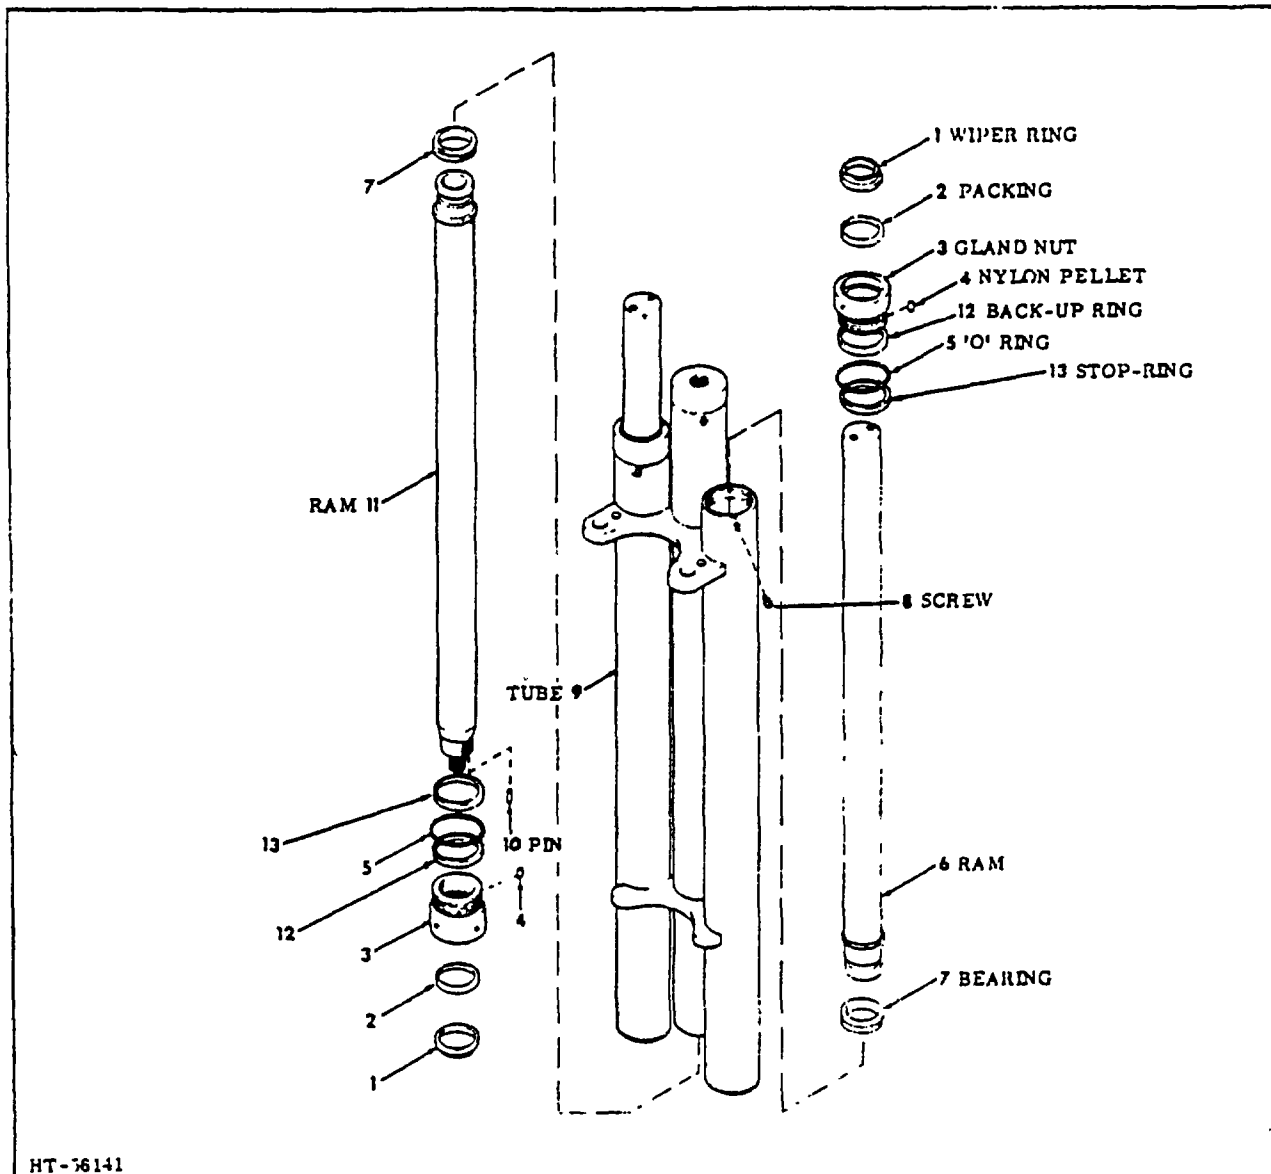

Figure 3. Cylinder Cluster Assembly (Tri-Max, High Free Lift)
1. Refer to Figure 3 and place bearing (7) on ram (6) end as shown.
2. Ensure that all parts and ram are free of any foreign matter and Insert ram in tube (9) as shown. Install and tighten the stop ring (13), if applicable.
3. Preassemble packing (2) and wiper ring (1) within gland nut (3) ; then place "O" ring (5) and back-up ring (12) on gland nut (3). Insert replacement nylon pellets (4) in nut.
4. Slide preassembled gland nut (3) over ram (6), and using a spanner wrench, tighten gland nut into tube (9).